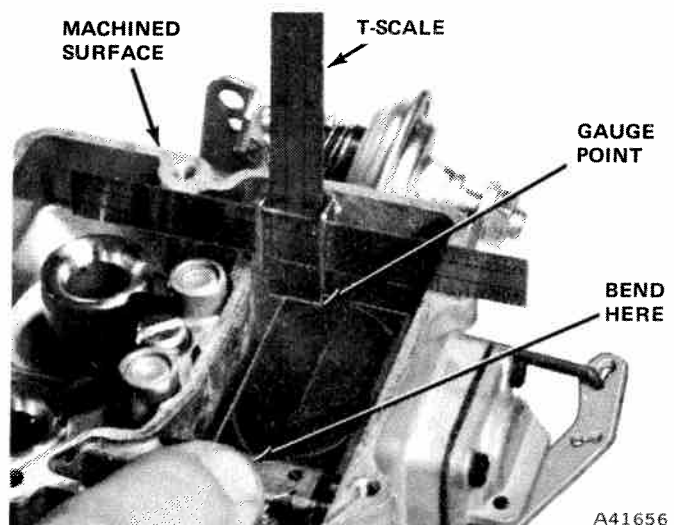

Fig. 4-47 Dry Float Adjustment
(1) Remove air horn assembly gasket. Raise float by pressing down on float tab until fuel inlet needle is lightly seated.
(2) Using a T-scale, measure distance from the fuel bowl machined surface to the flat surface of either corner of the float, at the free end (refer to Carburetor Service Specifications for the correct setting).
(3) Bend float tab to adjust and hold fuel inlet needle off its seat while adjusting, to prevent damage to the Viton tipped needle (fig. 4-47).